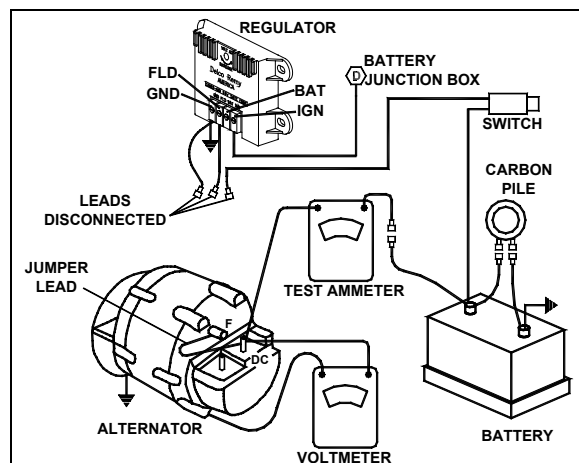

FIGURE 33: REGULATOR VOLTAGE TEST (UNDERCHARGED BATTERY)
6. See Figure 33 for wiring connections.
- B) By removing any retaining screws involved and unsoldering the connections. When resoldering, limit solder time to a minimum as excessive heat may damage the printed circuit board and component parts. However good soldered connections are essential for satisfactory operation. A resin core 63% tin 37% lead solder with a 360°F (182°C) melting point is recommended along with a soldering iron rated at 50 watts or less. Use extreme care to avoid overheating. Before checking the printed circuit board, remove transistor TR1, which must be checked separately. Connect the ohmmeter as shown in Figure 33, and then reverse the ohmmeter leads to obtain two readings on the same component. Use the middle scale on scale-type meters on which the 300 ohm value should be within, or nearly within, the middle third of scale.